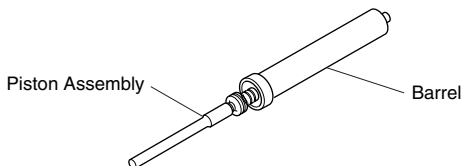

Figure 23 - Inserting Piston Assembly into Barrel
1. Using moderate force, insert piston assembly into barrel (see Figure 23).